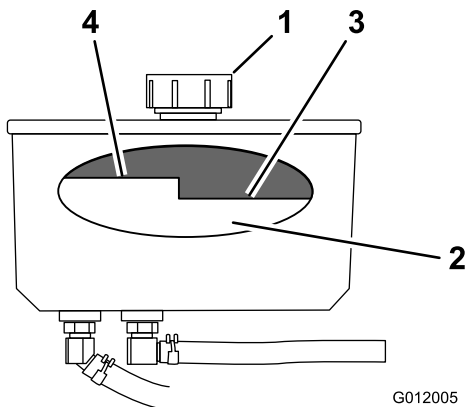

Figure 72
4. Clean the area around the cap and the filler neck of the hydraulic tank (Figure 72).
5. Remove the cap from the filler neck (Figure 72).
**Note:** The fluid level should be below the hot level of the baffle when the fluid is warm (Figure 72).